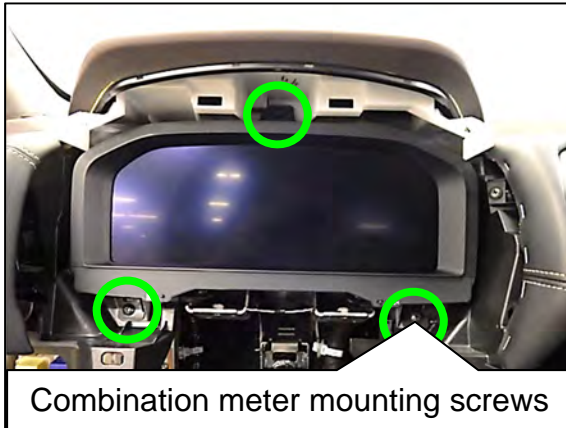
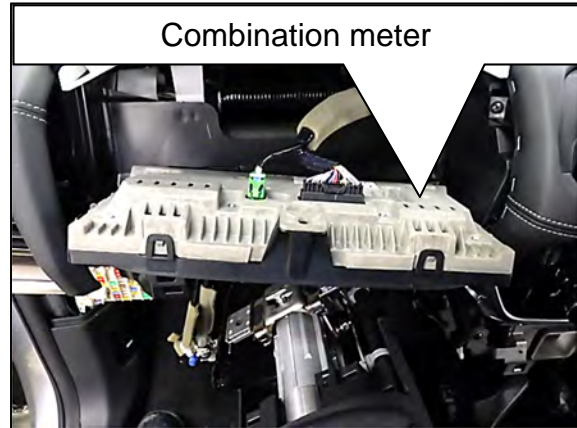

Figure 86
Figure 87
59. Remove the three (3) combination meter mounting screws (Figure 86), and then pull the combination meter outward (Figure 87).